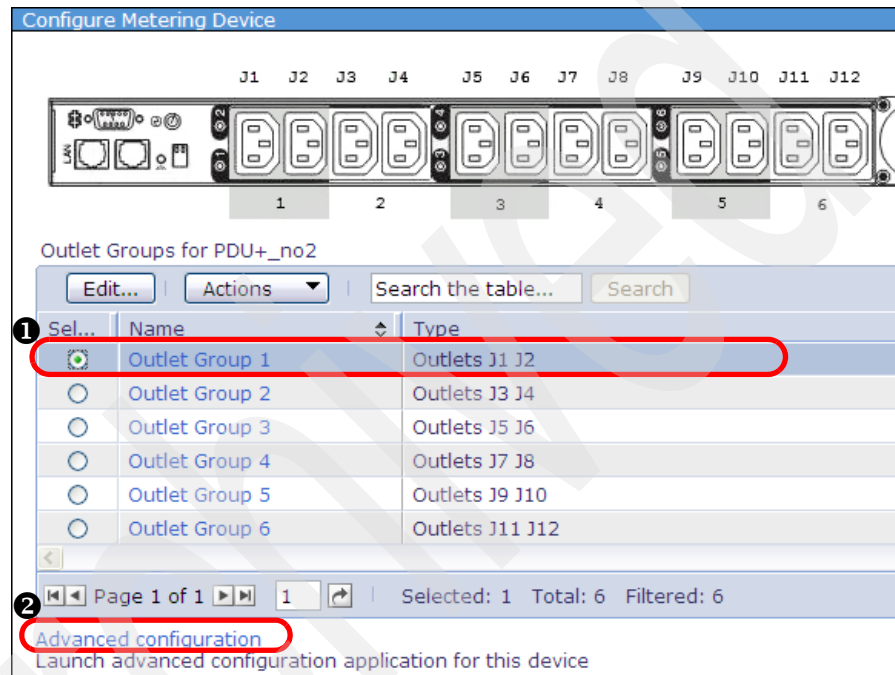

Figure 8-21 Configure Metering Device task for outlet groups
2. Select **Outlet Group1**, as shown at **1** in Figure 8-21, and then click **Edit** to assign a managed system.